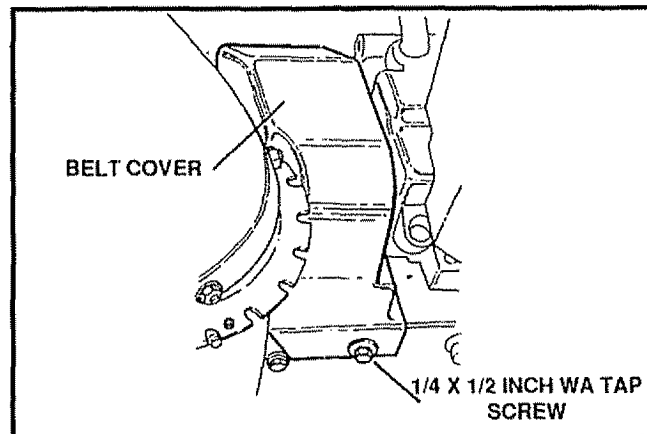

FIG. 28
- Remove the belt cover (See Fig. 28 on page 20).
- Remove the belt cover (See Fig. 28)